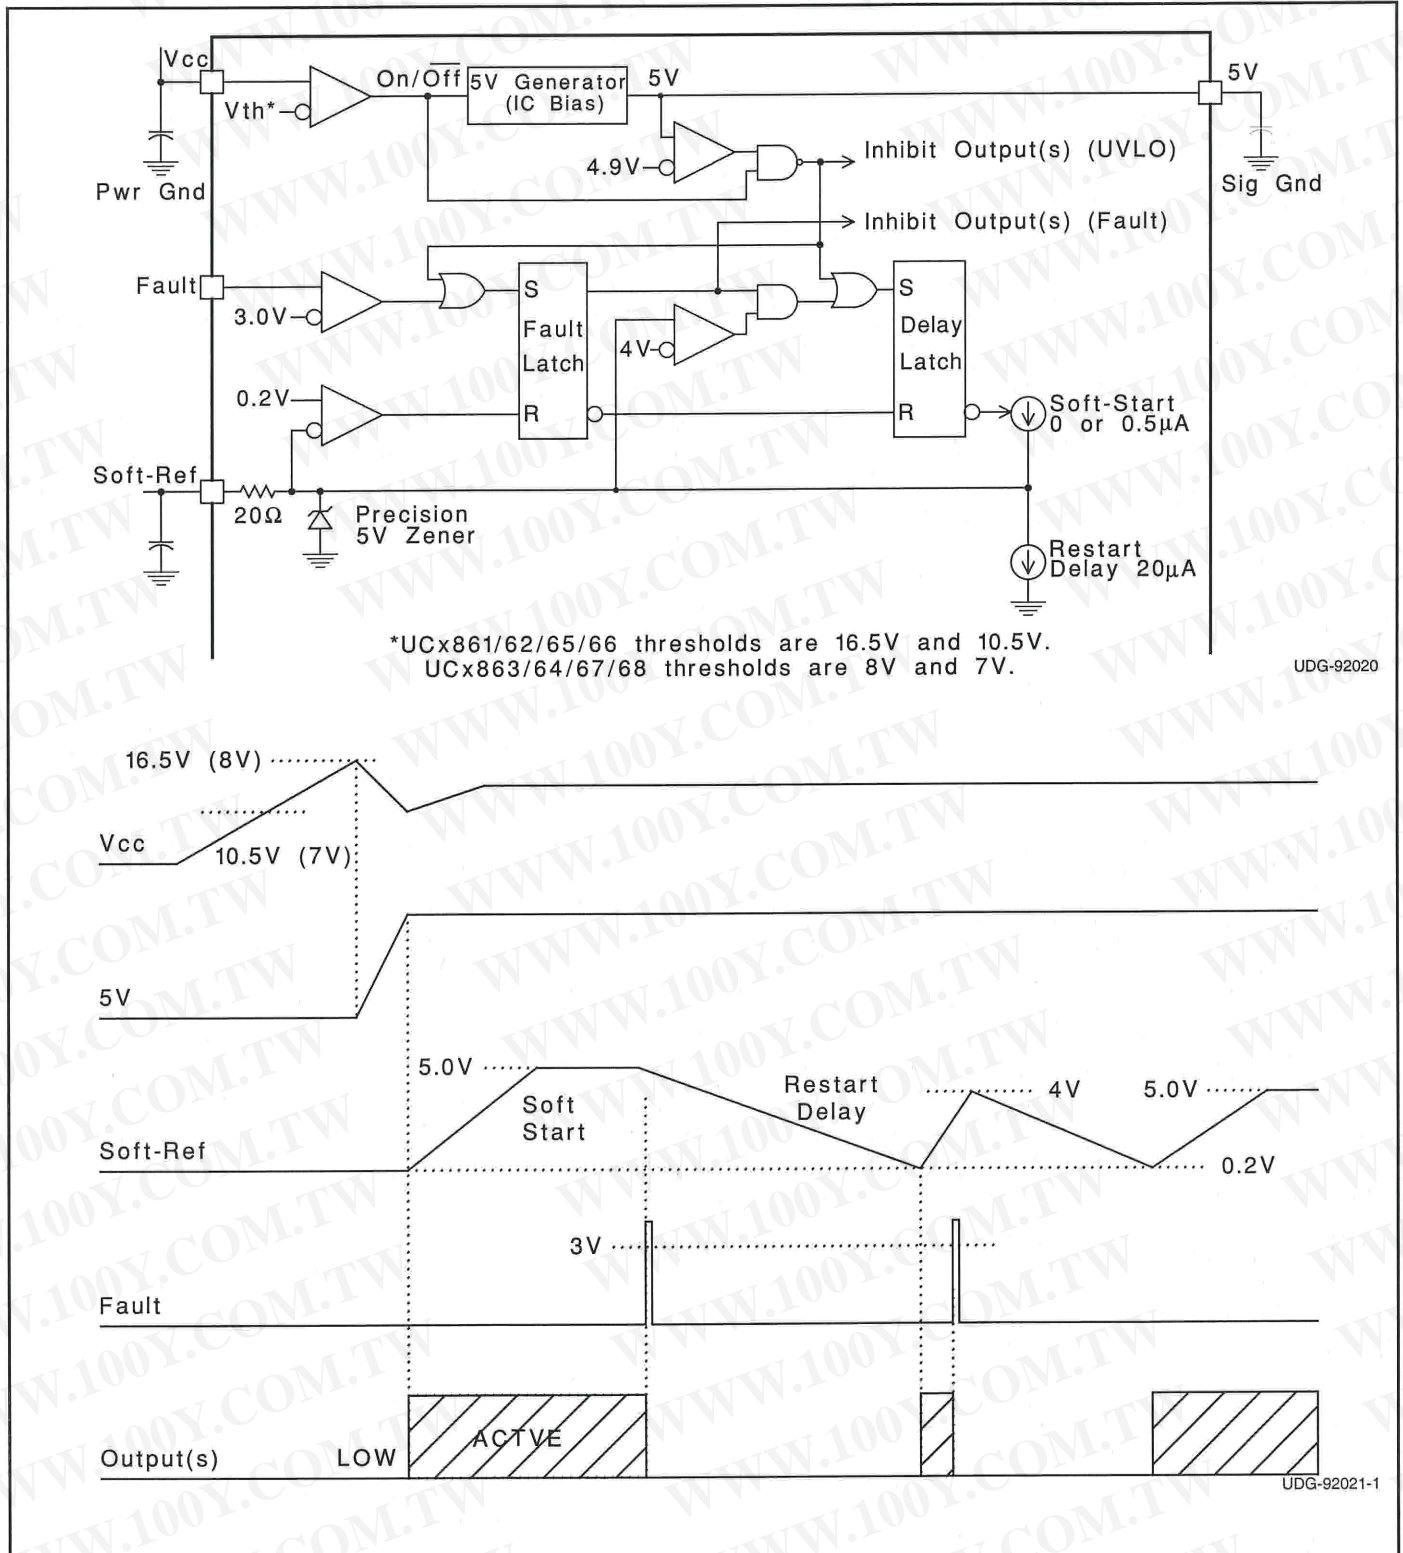

Figure 1. UVLO, 5V, fault and soft-ref.
**UVLO & 5V GENERATOR (See Figure 1):** When power is applied to the chip and  $V_{CC}$  is less than the upper UVLO threshold,  $I_{CC}$  will be less than  $300\mu\text{A}$ , the 5V generator will be off, and the outputs will be actively held low.
**FAULT AND SOFT-REFERENCE (See Figure 1):** The Soft-Ref pin serves three functions: system reference, restart delay, and soft-start. Designed to source or sink  $200\mu\text{A}$ , this pin should be used as the input reference for the error amplifier circuit. This pin requires a bypass capacitor of at least  $0.1\mu\text{F}$ . This yields a minimum soft-start time of  $1\text{ms}$ .